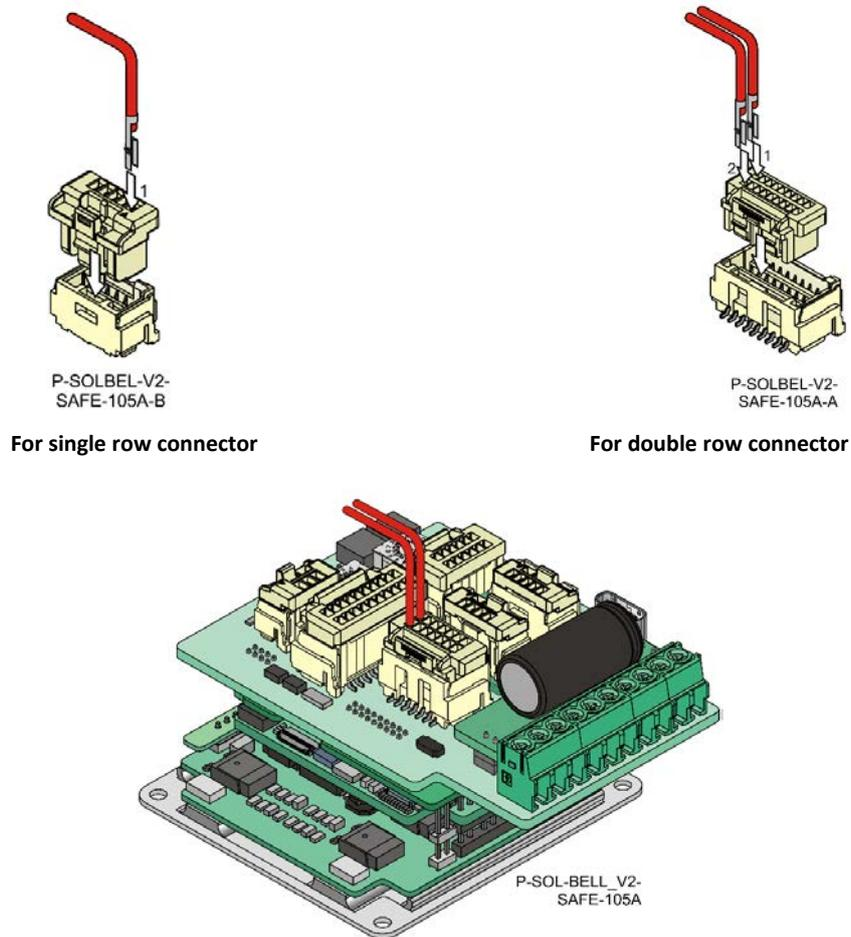

Figure 7: Inserting a wire/pin to the Female CON CLIK-MATE Connector
3. Place the connector on a flat surface, in the orientation as shown in Figure 7. Notice that the rectangular slot has a niche at the bottom of the slot.
4. Insert the wire connector to the slot as shown in Figure 7. Make sure that the connector protrusion is inserted to the bottom of the rectangular slot.
When inserting the wire connector to a slot in the second row, make sure to orientate the wire pin in the direction shown in Figure 7.